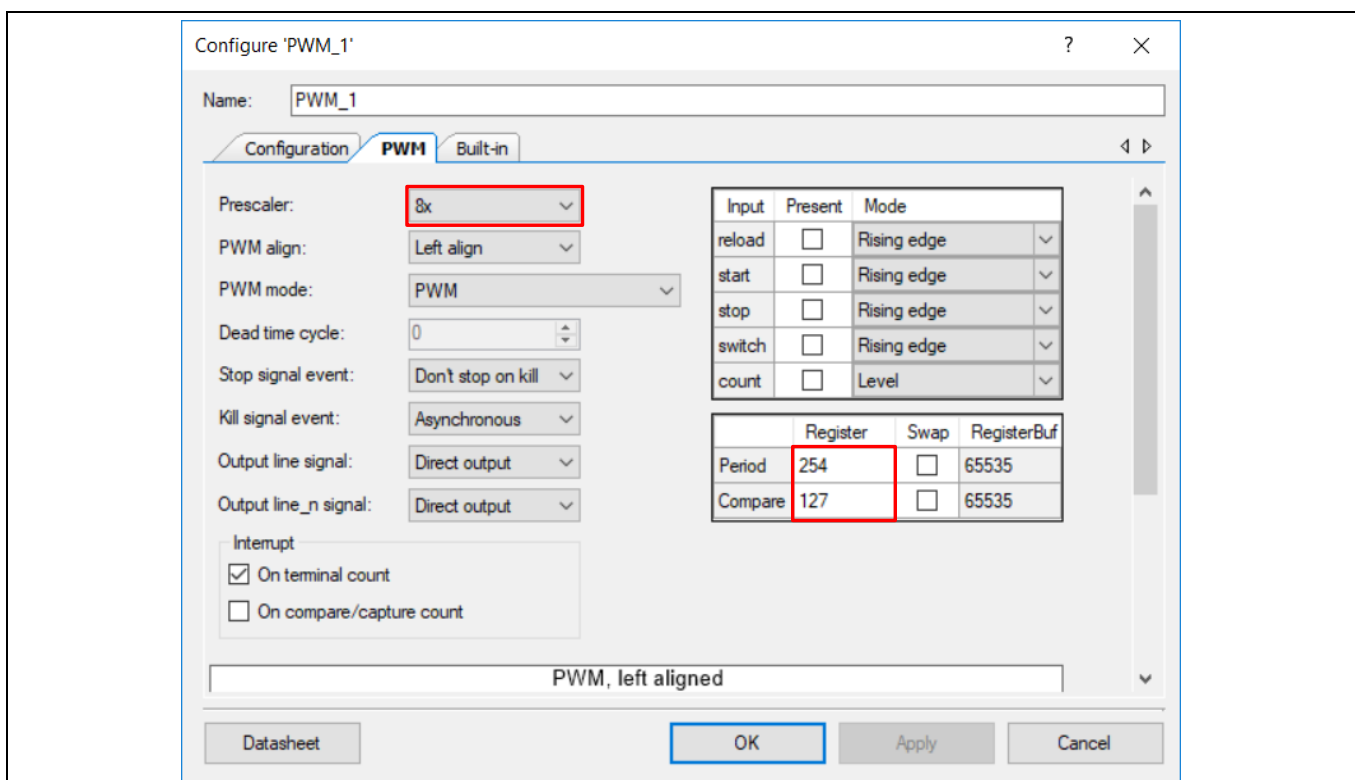

Figure 39 Configuring the PWM Component
7. Double-click the PWM Component on the schematic to configure the Component properties, as shown in Figure 39. Click the **PWM** tab, and set the Period value to 254 and the Compare value to 127 to generate a PWM signal with a 50 percent duty cycle.